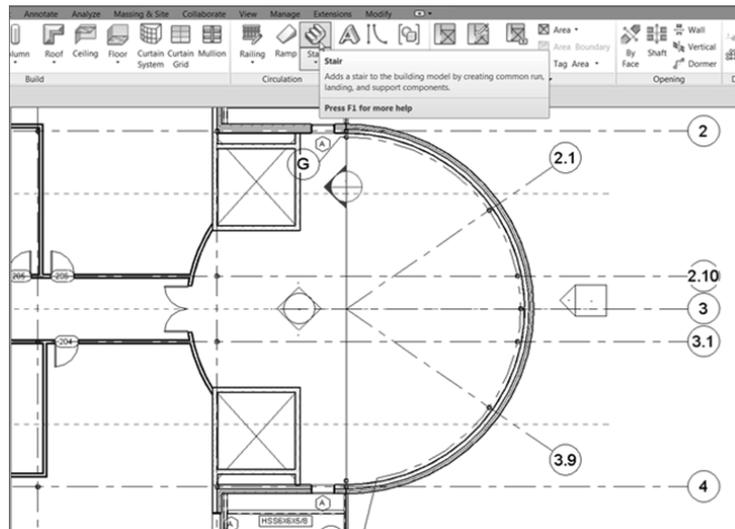

FIGURE 10.1: Click the Stair button on the Circulation panel of the Architecture tab.
2. Zoom in on the radial entry in the east wing, as shown in Figure 10.1.
4. On the Circulation panel of the Architecture tab, click the Stair button (see Figure 10.1).